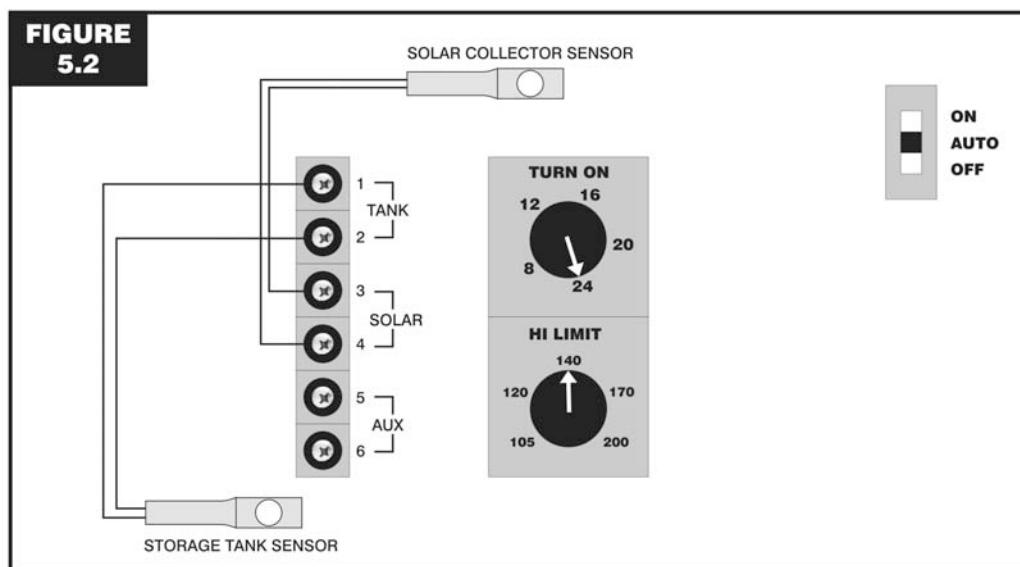

Figure 5.2
- B. Connect the storage sensor wire to the control at terminals 1 and 2, labeled "Tank". See Figure 5.2
- C. Connect the collector sensor to the control at terminals 3 and 4, labeled "Solar". See Figure 5.2.